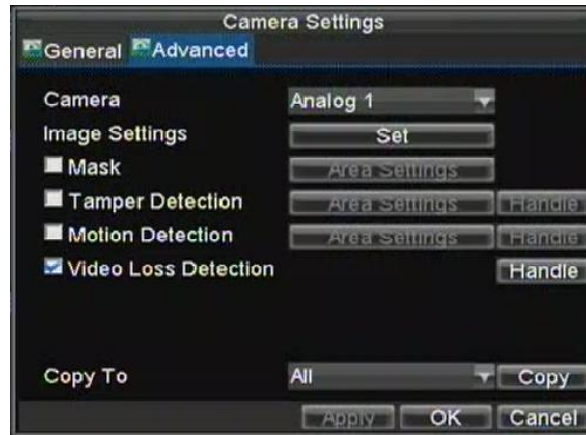

Figure 11. Camera Settings Menu
4. Check the **Video Loss Detection** checkbox to enable feature, as shown in Figure 11.